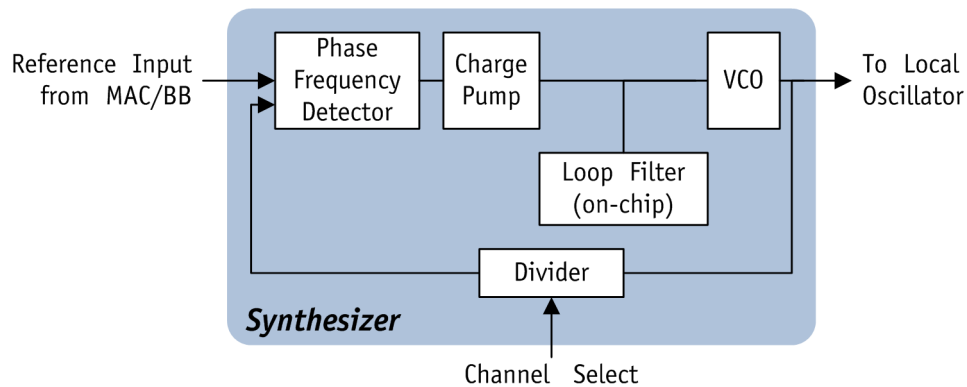

Figure 7-4. Radio Synthesizer Block Diagram
The radio supports an on-chip synthesizer to generate local oscillator (LO) frequencies for the receiver and transmitter mixers. The synthesizer has the topology shown in Figure 7-4. The AR9344 generates the reference input from a 40 MHz crystal for the synthesizer. An on-chip voltage controlled oscillator (VCO) provides the desired LO signal based on a phase locked loop.